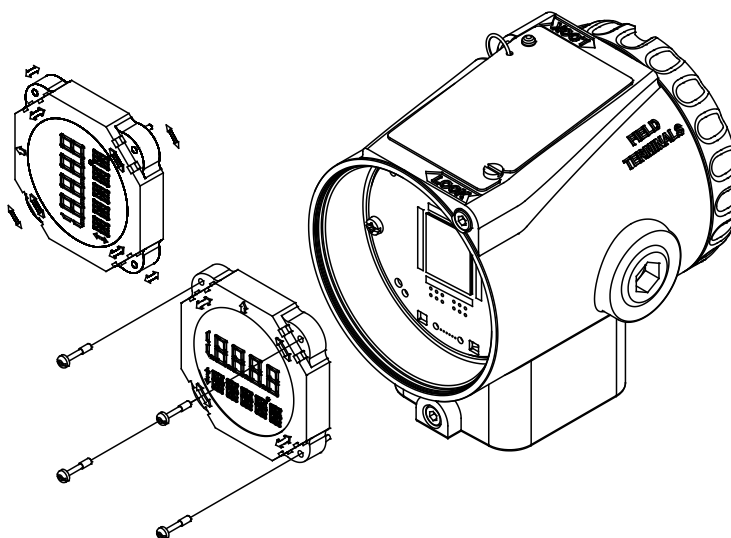

Figure 6.4 - Four Possible Positions of the Display
Plug sensor connector and power supply connector to main board. If there is a display, attach it to the main board by means of 4 screws (3). The display can be installed in any of the 4 possible positions (See Figure 6.4). The "▲" mark indicates up position.
Pass the screws (5) through the main board holes (6) and the spacers (7) as shown on Figure 6.4 and tighten them to the body.